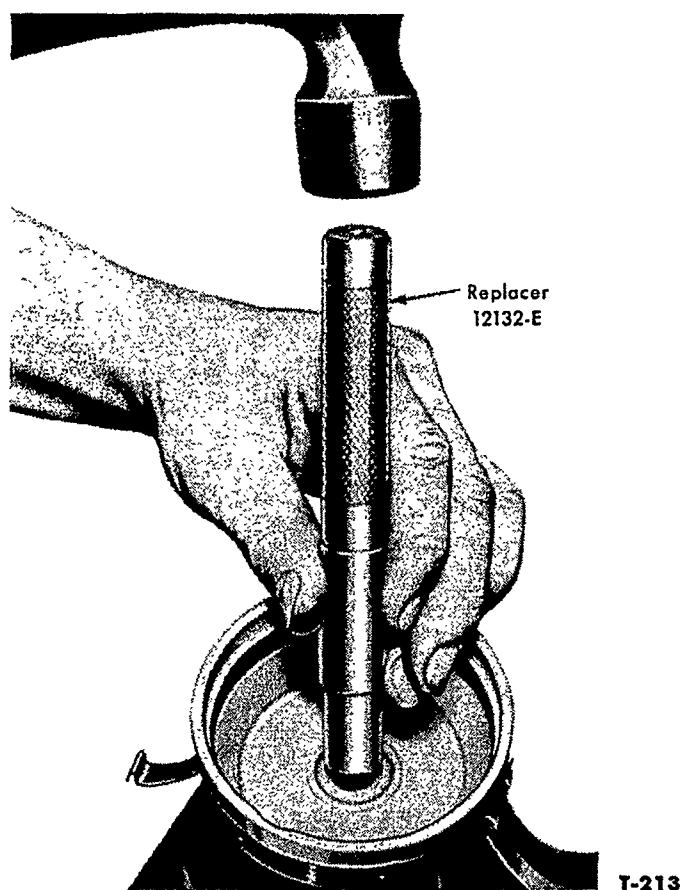

Figure 7—Installing Distributor Shaft Bushing
1. Place the distributor base in Holding Block 12132-C. Drive a new distributor shaft bushing into the housing with Distributor Shaft Bushing Replacer 12132-E, as shown in Figure 7, if it was removed.